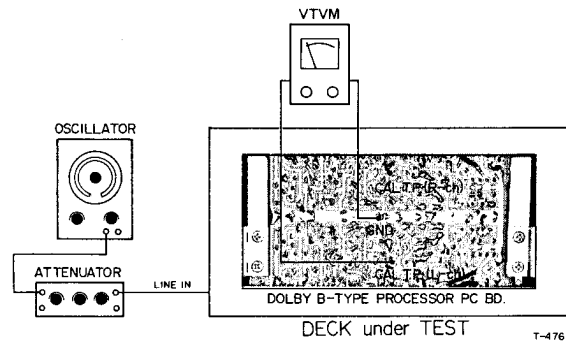

Fig. 7-8 Connection
9. Apply a 400 Hz signal at  $-5$  dB (435 mV) to the LINE IN jacks. See Fig. 7-8.
CONNECTION: See Fig. 7-8